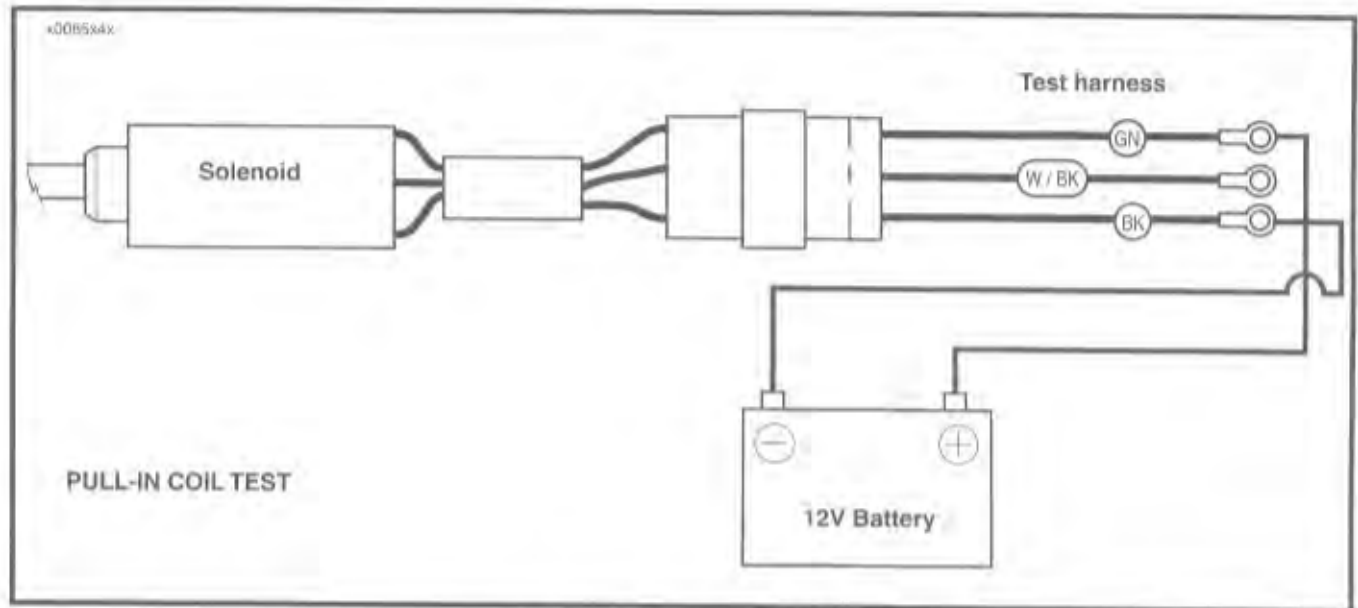

Figure 4-18. Pull-In Coil Test
1. See Figure 4-18. Connect a 12-volt battery to the solenoid test harness as shown. The butterfly valve must open.